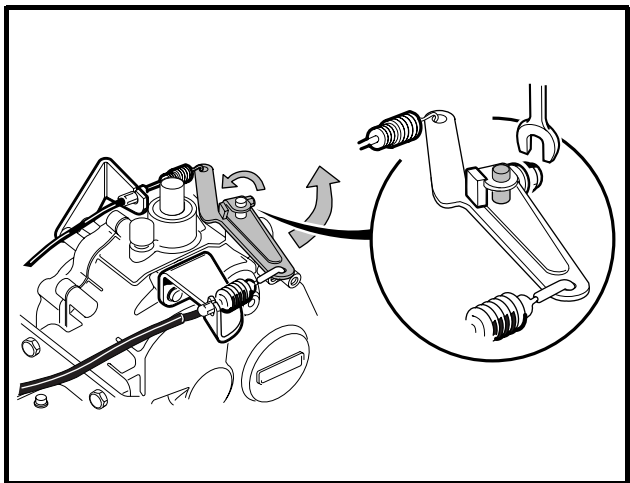

Figure 16-37 Governor Arm
8. Install governor lever arm on governor shaft (**Figure 16-37, Page 16-16**).
- 8.1. With the governor lever arm loose on the governor shaft, turn the governor arm shaft counterclockwise until it stops. Then pull the governor lever arm rearward until the carburetor throttle is in the “wide open throttle” (WOT) position (**Figure 16-37, Page 16-16**).
- 8.2. While holding the arm and shaft in the fully counterclockwise position, tighten the governor arm lever nut to 35 in-lb (4.0 N·m) (**Figure 16-37, Page 16-16**).